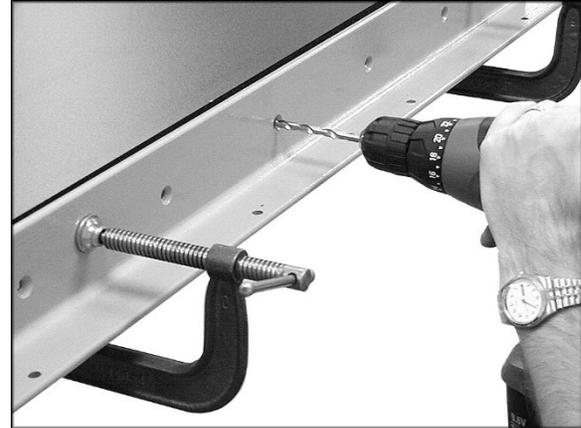

Figure 6-9
5. When extension table is properly aligned, drill holes into wood table using holes in rails as guide. See Figure 6-9. (You may wish to drill 3/32" pilot holes first.) Drill 9mm (or 11/32") holes into front edge and back edge of table using holes in the rails as your guide.